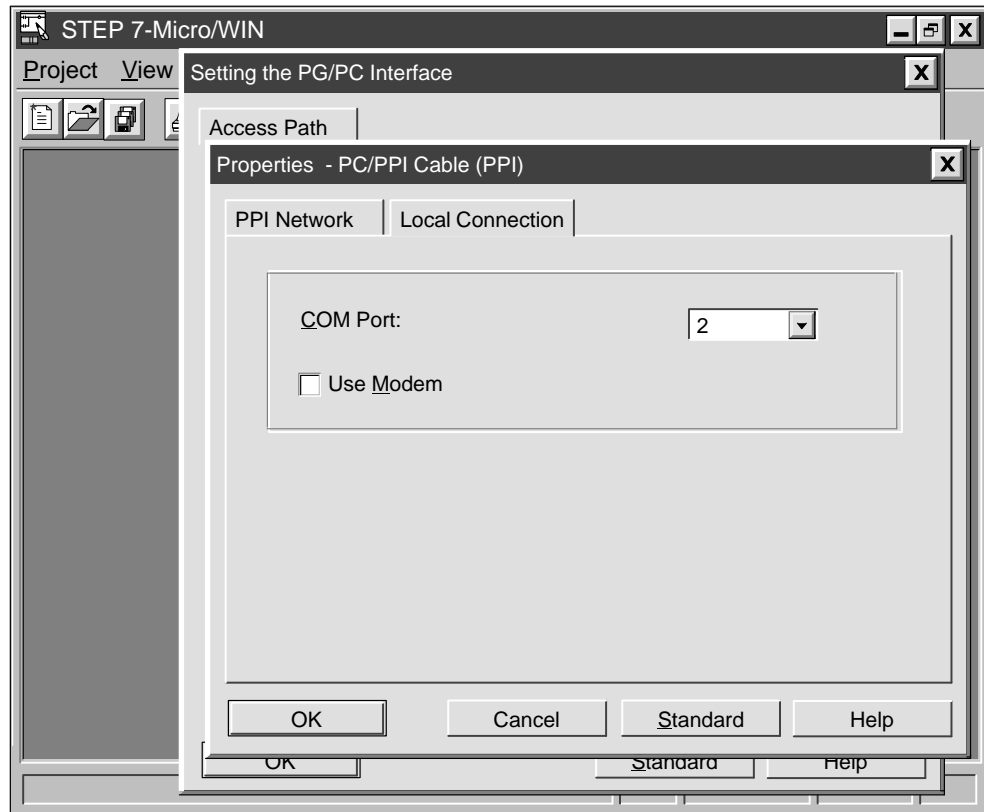

Figure 3-10 PC/PPI Cable (PPI) Properties Sheet, Local Connection Tab
6. Click the Local Connection tab. See Figure 3-10.